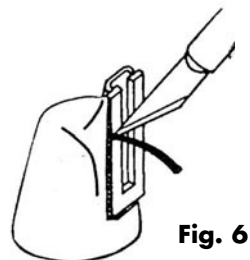

Fig. 6
9. Form a groove in the wax around the female face plate with a fine explorer or Bard Parker (Fig. 6). Hold the blade at approximately a 45° angle to the female faceplate. Remove a tiny amount of wax (0.1mm) from all three sides of the faceplate, creating a bevel into which the casting investment will flow. This will help to stop alloy from casting onto the faceplate.